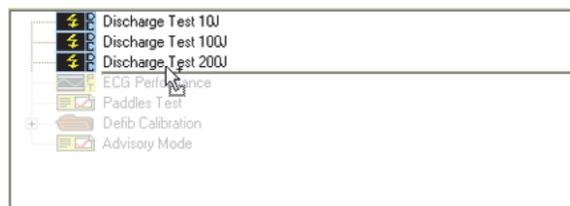

Figure 3-53. Copying a Test Element
2. Click the test element you want to copy and hold down the left mouse button while you drag the test element to its new location. The cursor changes to a "copy" cursor and a horizontal line indicating where the test will appear is displayed in the template window as show in Figure 3-53.